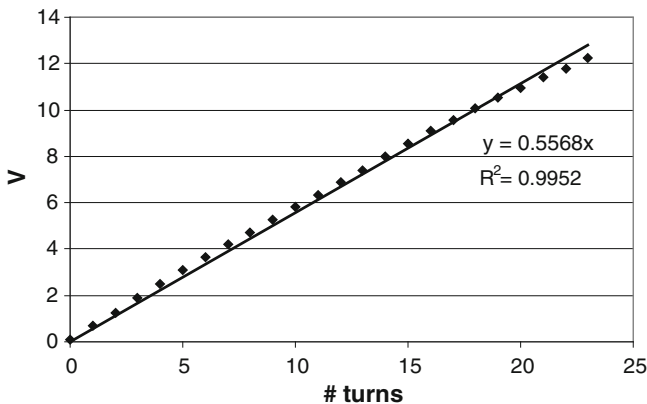

Fig. 2.24 Experimental data for Task 4
- Plot the output voltage against the number of turns. Perform linear regression and obtain the equation and R^2 value. You will notice that the output voltage is linearly proportional to the number of turns (Fig. 2.24).